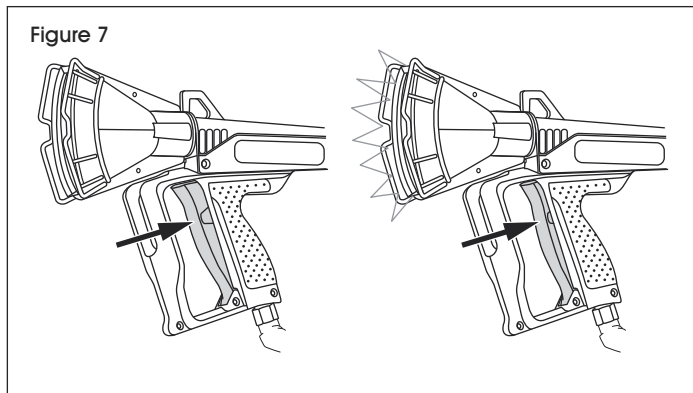

Figure 7
7. Depress trigger half way for one second, allowing gas to fill chamber. Fully depress trigger after the allowed time to ignite gun. (See Figure 7)